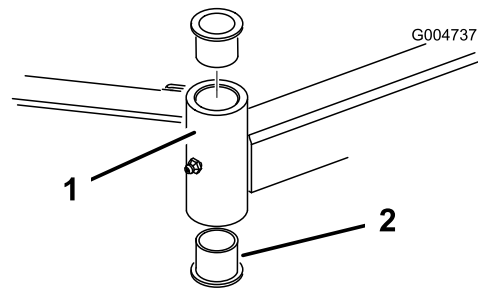

Figure 76
4. Insert a pin punch into the top or bottom of the mounting tube and drive the bushing out of the tube (Figure 76). Also drive the other bushing out of the tube. Clean the inside of the tubes to remove dirt.